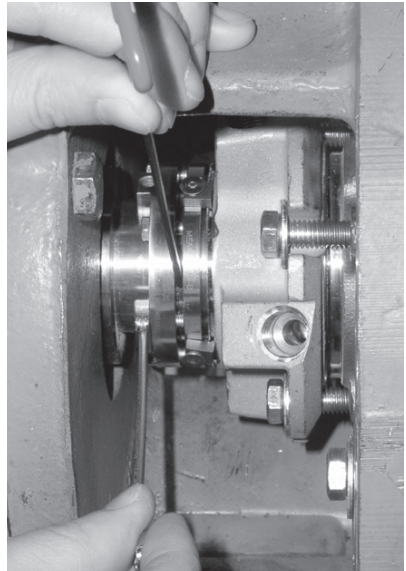

Figure 11
- 2.11 With the impeller, shaft, coupling, and bearings in their final operating positions, **tighten the collar bolts** evenly to compress the sleeve gasket. Tighten until the gap between the drive collar and the adjusting collar is 3/32" for sizes 33 - 65 mm (1.000 to 2.500 inch), and 1/8" for the 2.625 inch seal size. This gap can be checked with the supplied Allen wrenches by inserting the wrenches between the collars and matching the width across the flats to the gap. The gap should be even, and all of the collar bolts should be tight. See Figure 11.